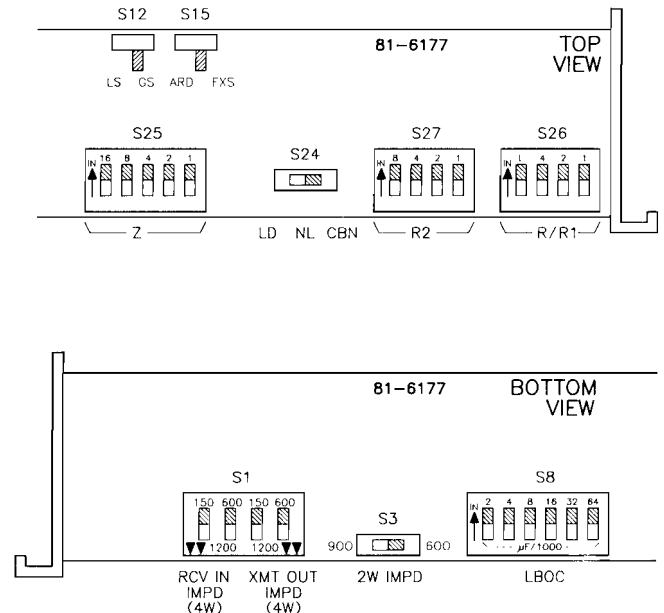

figure 9. 6177 option switch locations
3.05 Several option switches must be set before the 6177 is placed into service. Locations of these switches and of certain alignment switches on the module's printed circuit board are shown in figure 9. Table 6 summarizes all switch options and provides a convenient **checklist** that can be filled out either prior to installation for prescription optioning or during installation to serve as a record for later reference. Refer to figure 9 and table 6, and set each option switch on the 6177 as required.